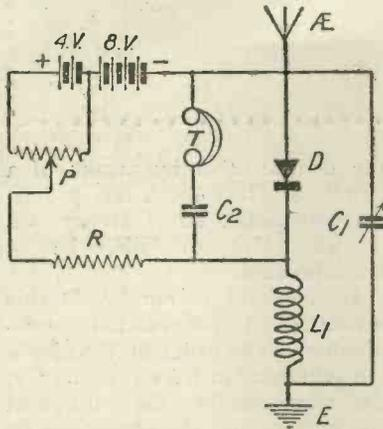
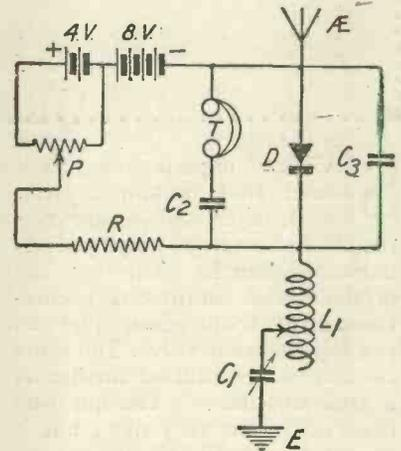

Fig. 3.—Circuit for autodyne reception of long waves.
Fig. 4.—Circuit for reception of short waves.
**Battery.**—If the crystal is to be made to oscillate, then the battery may be a variable H.T. battery, with as many tapings as possible. If reaction effects are desired on telephony then the adjustment of battery voltage will be critical, and a potentiometer of standard pattern (say 300 ohms) can be connected across 4 volts of the battery, as shown in Fig. 3, control of oscillation and the pre-
oscillation stage being made on this potentiometer control. The circuit shown in Fig. 3 is taken from our contemporary *Radio Revue* (Paris) and shows an arrangement stated to be suitable for the reception of long waves. Fig. 4, from the same source, is given for short waves.